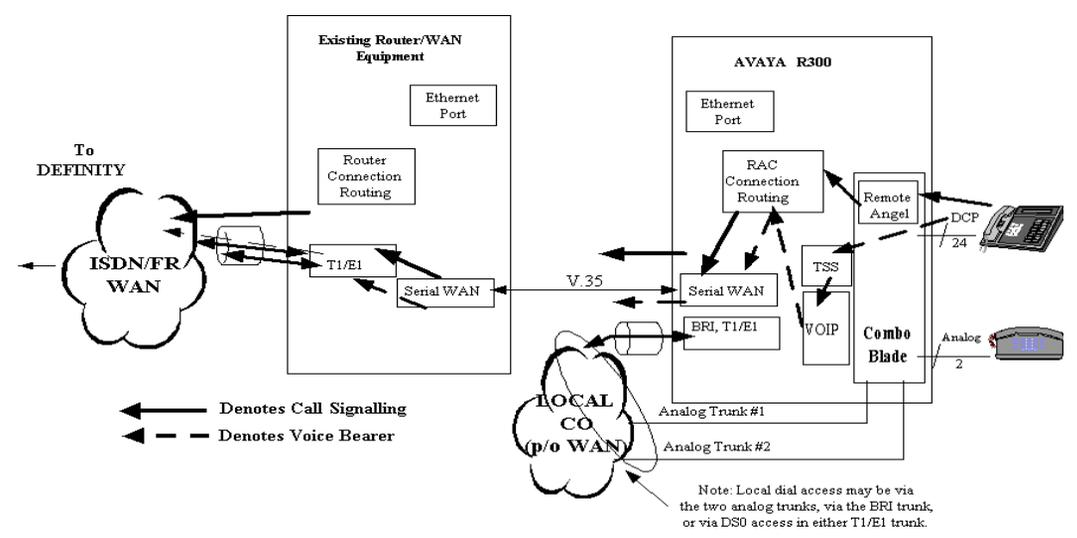

Figure 5. Avaya R300 Subtending to Existing WAN Access Concentrator (Serial WAN Connected to Router)
- Connection via its Serial WAN port (V.35) over to the Serial input of a WAN router (see Figure 5 on page 8)